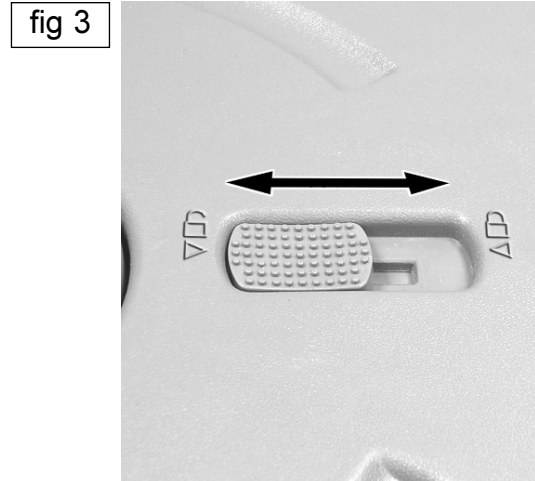

fig 3
- 4.2.2 Flip the lock switch (fig 3), which is located on the side of the hose reel, so that it is in the "lock" position.